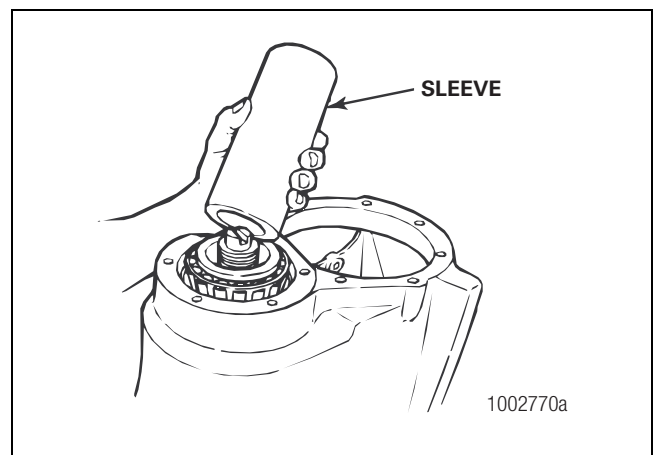

**Figure 5.8**
- C. Use a sleeve or a bearing driver tool and a press to install the cup. Press the cup into the carrier until the bottom of the cup touches the bottom of the bore. If a press is not available, use a sleeve, a brass drift or a bearing driver tool and a hammer to install the cup. Figure 5.8.